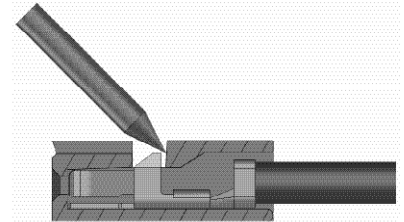

Figure 12
1. Use small tool with pointed tip and position it at orange wire on 26 pin connector position 6, as shown in Figure 12 .
2. Lift up plastic lance, as shown in Figure 12, slowly pull orange crimped terminal/wire assembly out of connector.